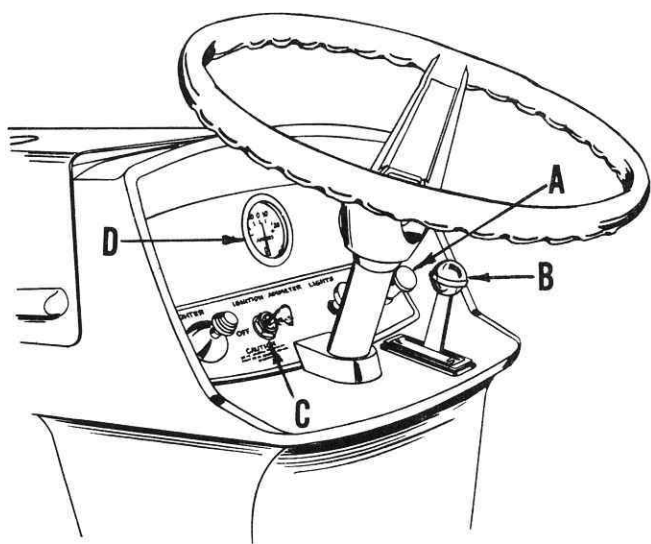

FIG. 10
4. Pull out choke control (A, Fig. 10), to full choke position to start in cold weather.
5. Advance throttle control lever (B, Fig. 10), to about $\frac{1}{2}$ throttle
6. Turn ignition-starter key (C, Fig. 10), clockwise to engage starter. When engine starts, release key. After engine starts, push in choke control (A, Fig. 10), as engine warms up. Let engine warm up before applying load.
CAUTION: Do not run starter continuously for more than 30 seconds at a time. If after several attempts, engine does not start, move throttle control lever (B, Fig. 10), to FAST position. Wait for two minutes and try again.
7. Ammeter (D, Fig. 10), indicates rate of battery charge or discharge when ignition switch is on.
8. To stop engine, turn key (C, Fig. 10), in a counter-clockwise direction to off position. Key should be removed so children can not start tractor.